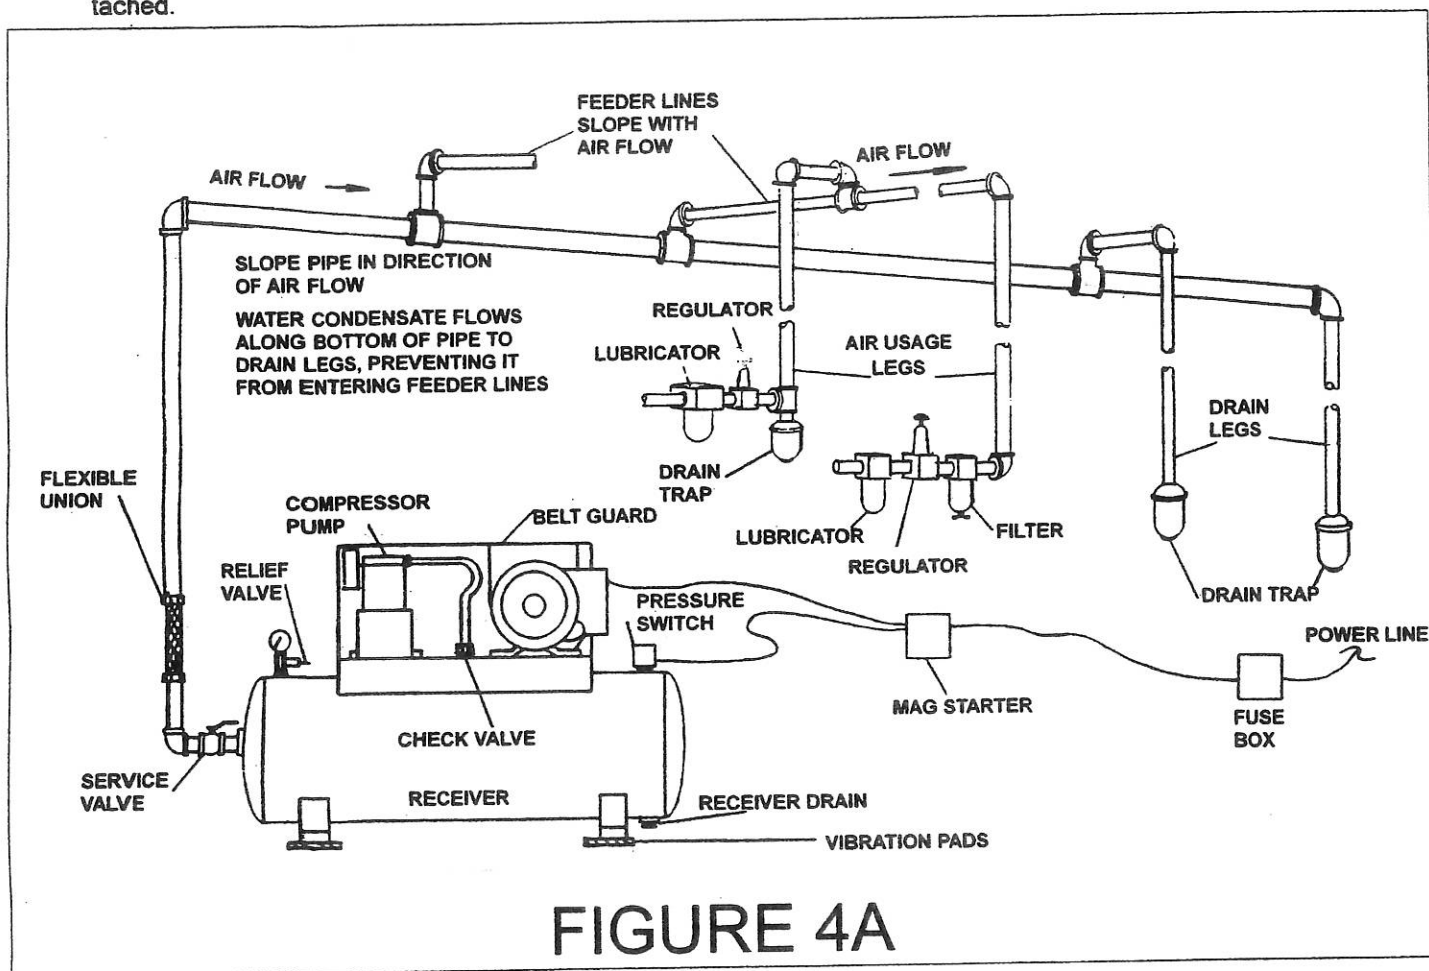

FIGURE 4A
10. Before operation of unit, close the service valve (see figure 4A) and start compressor allowing the receiver to build up to the maximum pressure. At this pressure, if the unit is equipped with automatic start-stop regulation, the pressure switch should cause the compressor to stop. If the unit is equipped with a constant-speed control it should unload (run without compressing air). If the unit does not operate properly shut down immediately and contact the nearest Service Center. If the unit operates properly refer to break in procedure on page 6 under the Lubrication section.
12. The diagram below (figure 4A) shows a typical installation of a compressor with permanent air lines attached.